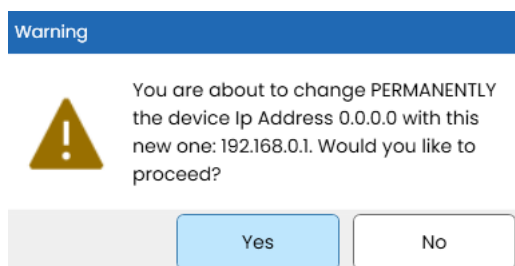
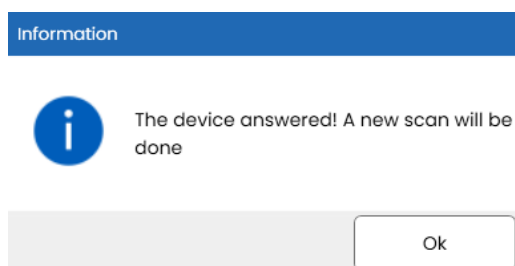

Figure 7.27: Pop-up that warns of permanent IP change.
Figure 7.28: Pop-up that informs new device detected.
Then click on *Change Ip Address* button ④ and confirm your choice (see Figure 7.27). Subsequently another pop up will appear to notify the response from the new device and therefore the start of a new scan (see Figure 7.28).